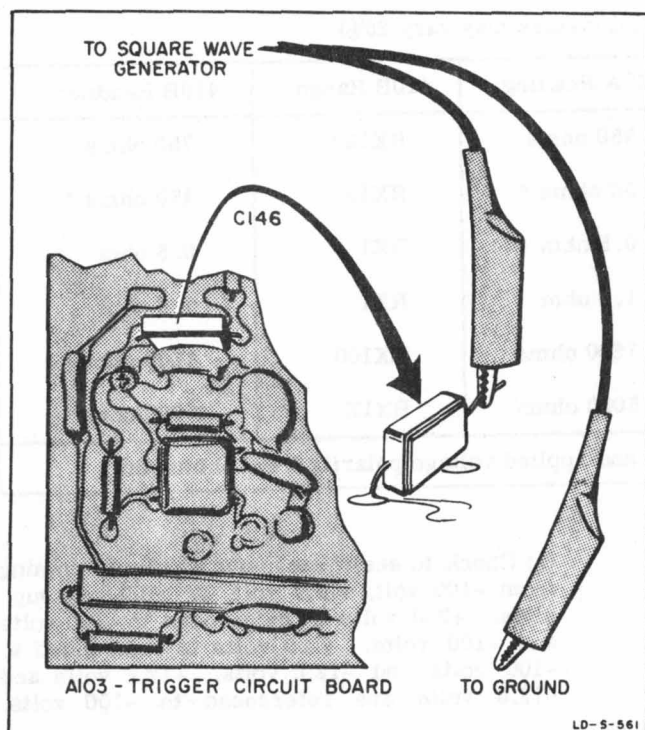

Figure 5-1. Driving the Trigger Circuit
a. Open the circuit loop by lifting C146 at the junction of R175 and L112 (see figure 5-1).
- (1) Attenuation at 0 db
- (2) Amplitude at 1 volt
- (3) Frequency to 30 kc
c. Using clip leads, connect square wave generator to capacitor and to ground as shown in figure 5-1.